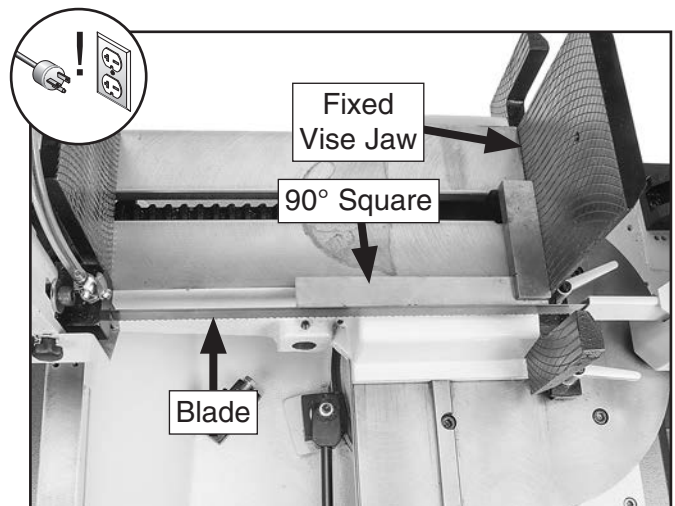

Figure 97. Example of testing blade-to-vise squareness.
- Place 90° square against fixed vise jaw and blade, as shown in **Figure 97**. Square should fit snugly against fixed jaw and blade.